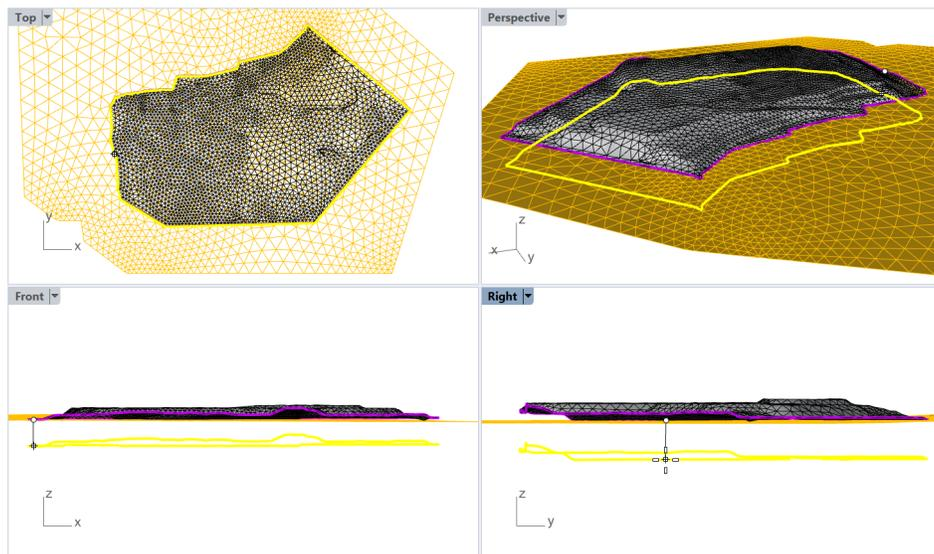
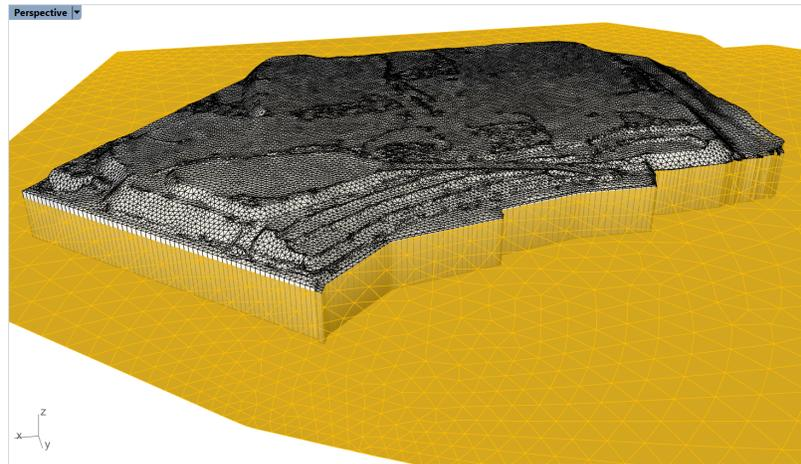

Figure 80: Extension of the pit dump mesh downward along its boundary (*FreeExtend* mode).
Figure 81: Extended pit dump mesh fully intersecting topo mesh.
16. Select the pit dump mesh and use **_GExtend** → *FreeExtend* option. The mesh boundary will be highlighted in magenta; select the whole boundary (**Ctrl+A**) and press **Enter**. Now the boundary can be dragged to a desired location, and the mesh will be extended to the new boundary. While the cursor is in drag mode, move it to *Front* or *Right* viewports (Figure 80). Then press and hold **Shift** and drag the mouse to position it under the topo mesh as in Figure 80. When the whole boundary is below the topo mesh, release the mouse button. This will extend the dump mesh along its boundary strictly downwards (Figure 80, Figure 81).